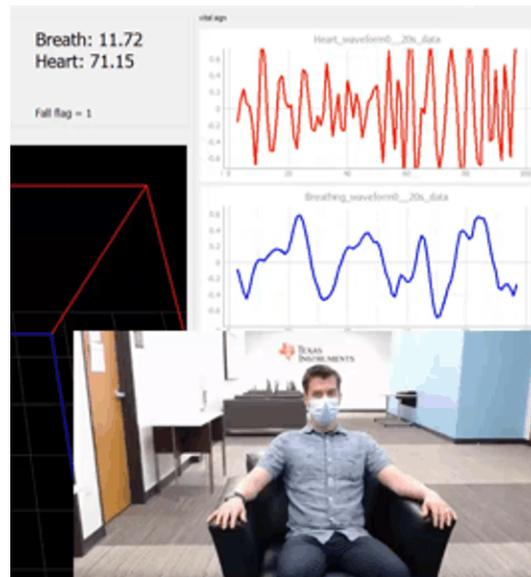

Figure 3-3. Vital sensing using mmWave
- **Vitals Sensing and Sleep Monitor:** Another potential use case is to detect vitals information (breathing and heart rate), adjust air flow, and provide alerts by detecting the sleeper's posture and motion at night. The device can provide feedback on sleep quality (as seen in Figure 3-3), which can be very important data for the elderly.